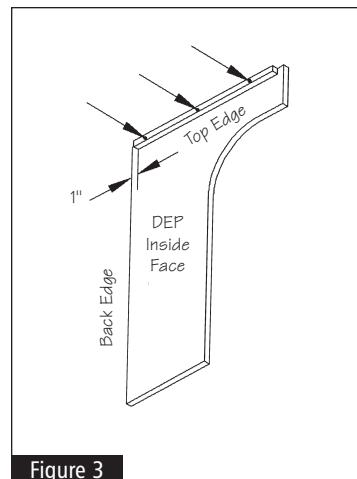

Figure 3
Trim the wood mounting strip so that it is approximately 2" shorter than the depth of the DEP. Attach the wood mounting strip to the inside face of the DEP flush with the top edge and at least 1" from the back edge of the DEP using (3) 1-1/4" wood screws. See Figure 3.